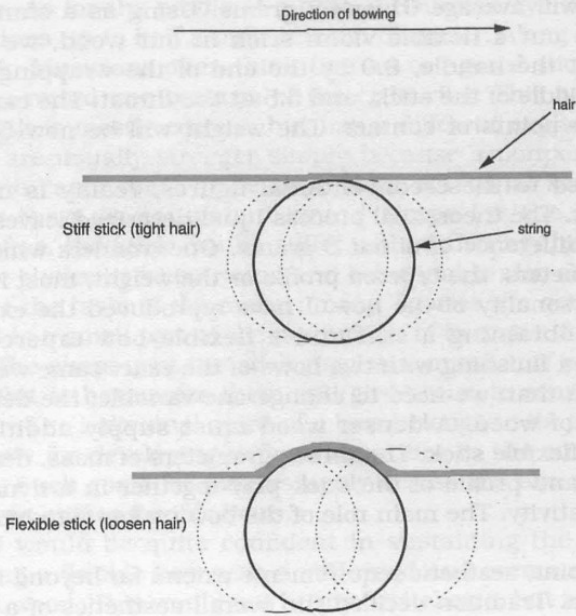

Figure 7
*The hair.* As I mentioned earlier, the hair is linked to the concept of the stick. The hair, which plays the main part in stimulating the string, is governed by the shape of the stick. A stiff stick stretches the hair, which then comes into contact with the string on a tangential line (Figure 7). The bow quickly springs back from the string: this is a desirable feature for fast and sharp bowing. Yet, in this pattern, the hair shortly abandons the string, and has little chance to develop more partials of the sound. On the contrary, a flexible bow allows the hair to almost wrap the string, to pull on it, and liberate it while developing more harmonics. A lot can happen then in terms of sensations for the player and solicitation of the spectrum of the stringed instrument. Fine bows combine the two qualities, being both flexible